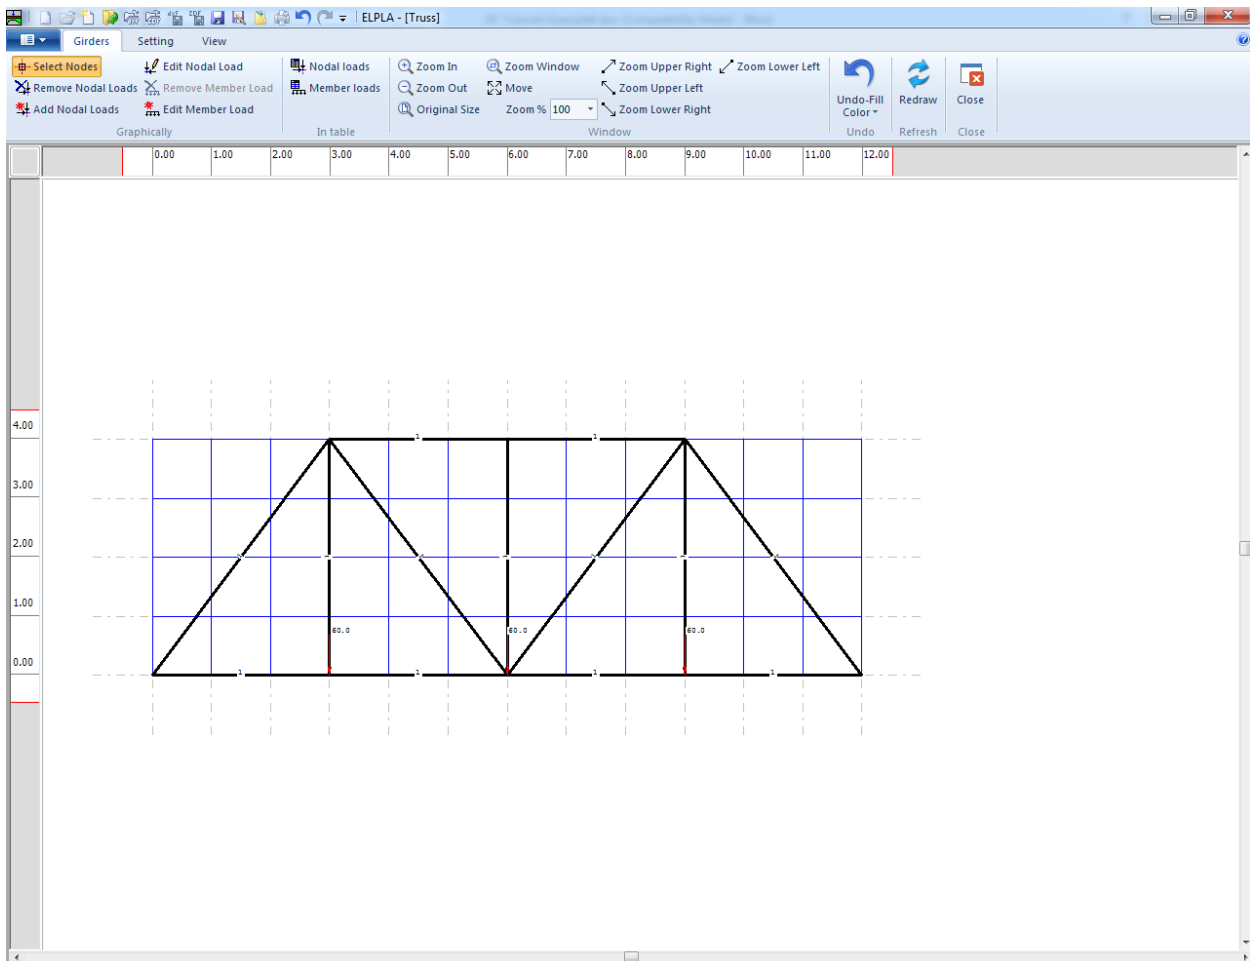

Figure 6.29 Truss load
After you have completed the definition of the nodal loads, the screen should look like the following Figure 6.29.
- Choose "Save " command from "File" menu in Figure 6.29 to save the load data
- Choose "Close" command from "File" menu in Figure 6.29 to close the "Loads" Window and return to the main window.